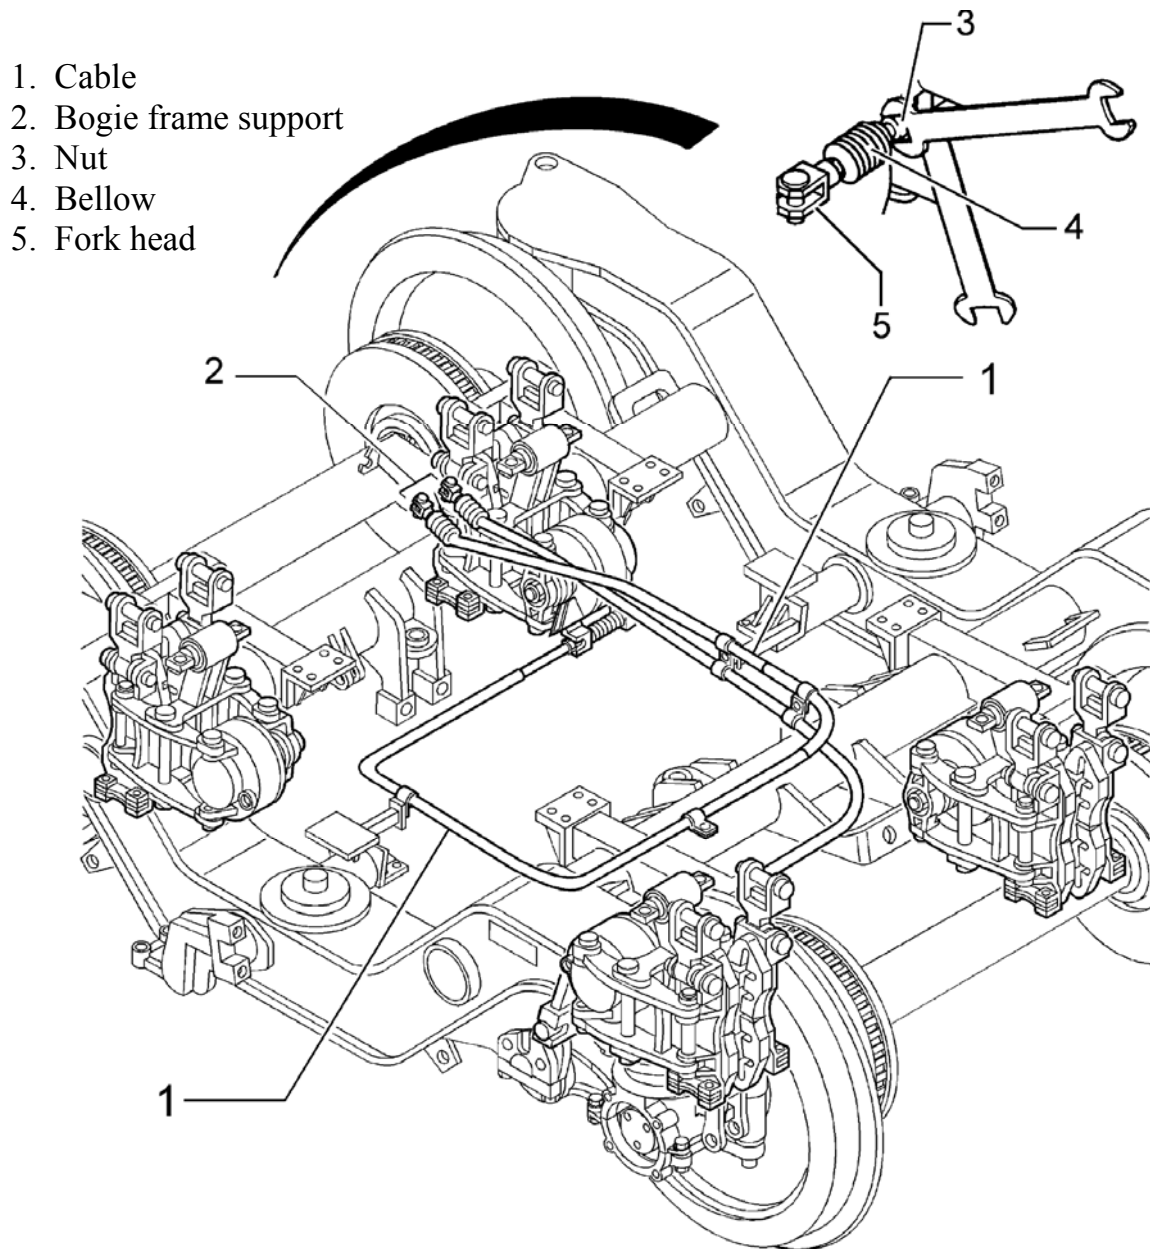

FIG. 4.34 HAND BRAKE CABLES REMOVAL 1/3
In order to remove the two hand brake cables (1 - FIG. 4.34 - only bogie 1267334), begin disconnecting them from the bogie frame supports (2).